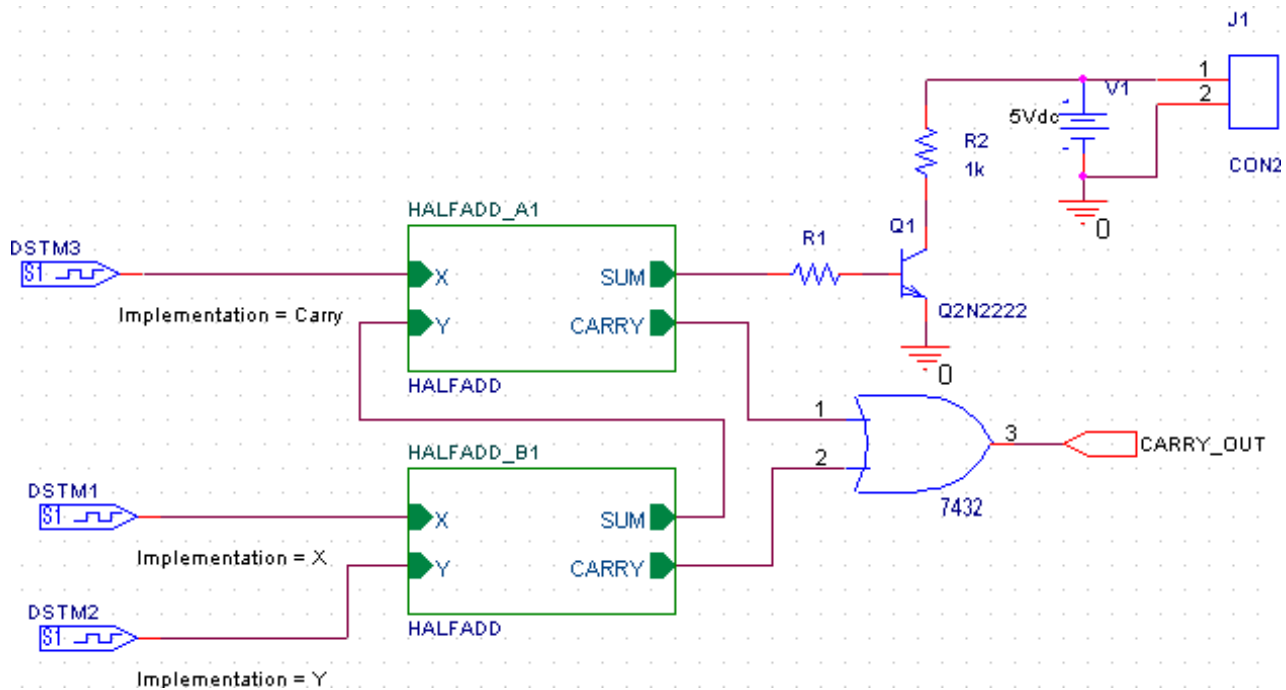

Figure 2-3 Full adder circuit with output through a transistor
4. From the part list, add resistor R. Place this resistor on the schematic and connected one end of the resistor to the SUM port of HALFADD_A1. See Figure 2-3 on page 28.
5. From BIPOLAR.OLB, select Q2N2222 and place it on the schematic. See Figure 2-3 on page 28.
6. Complete the circuit by adding a collector resistance, Collector Voltage, and ground. See Figure 2-3 on page 28.
- c. Place the voltage source on the schematic. See Figure 2-3 on page 28.
- c. Place the ground symbol on the schematic. See Figure 2-3 on page 28.